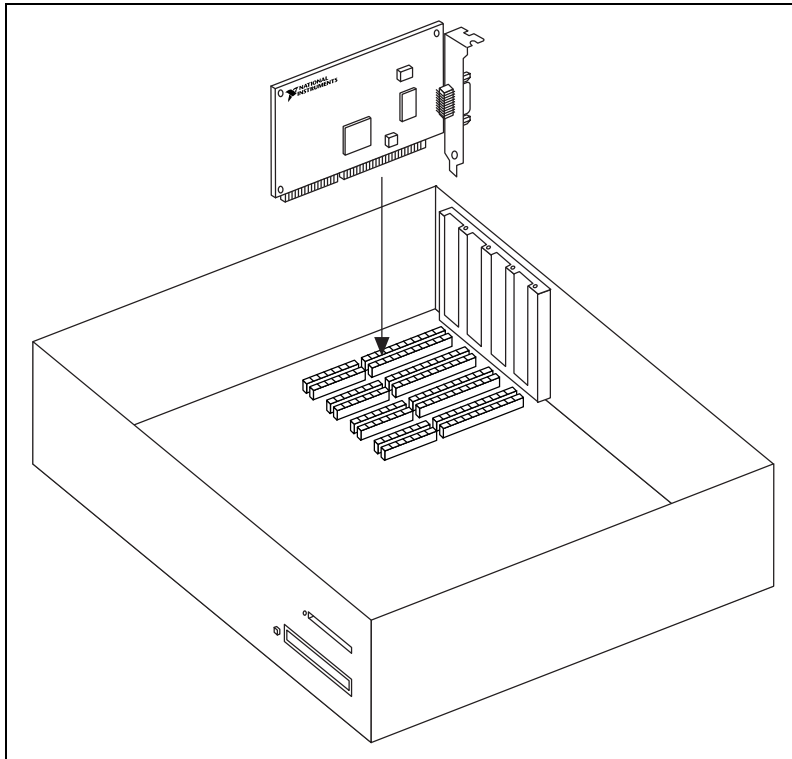

Figure 13. Installing the AT-GPIB/TNT (PnP)
5. Insert the GPIB board into the slot with the GPIB connector sticking out of the opening on the back panel, as shown in Figure 13. It might be a tight fit, but do not force the board into place.